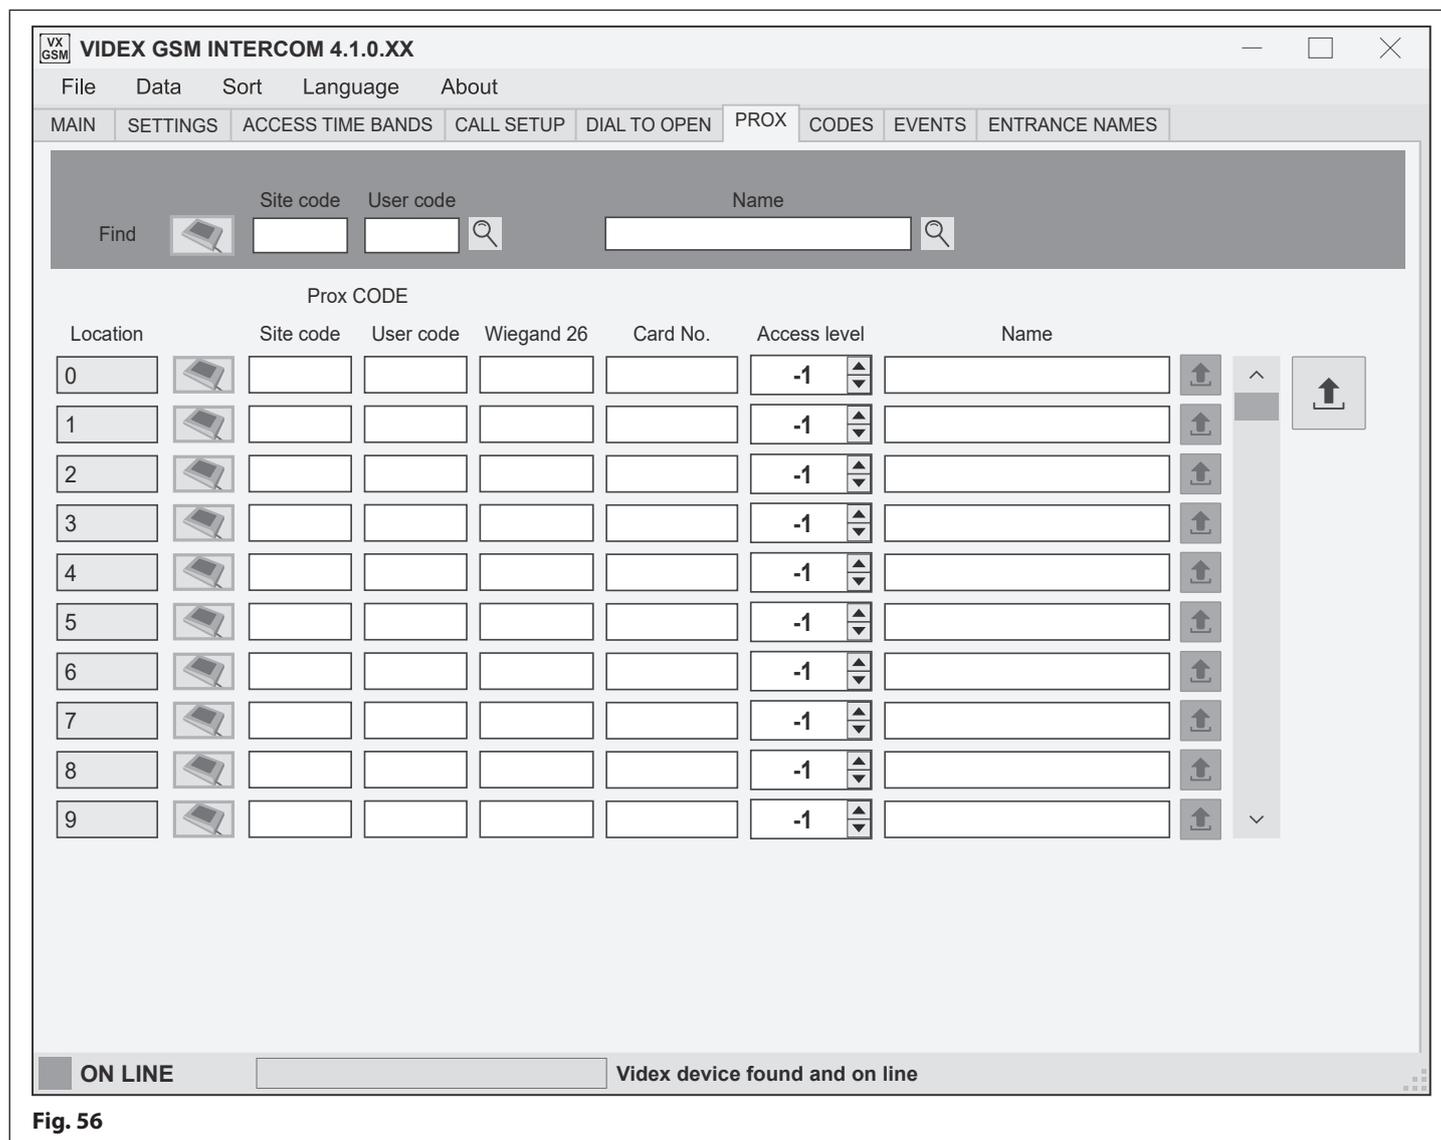
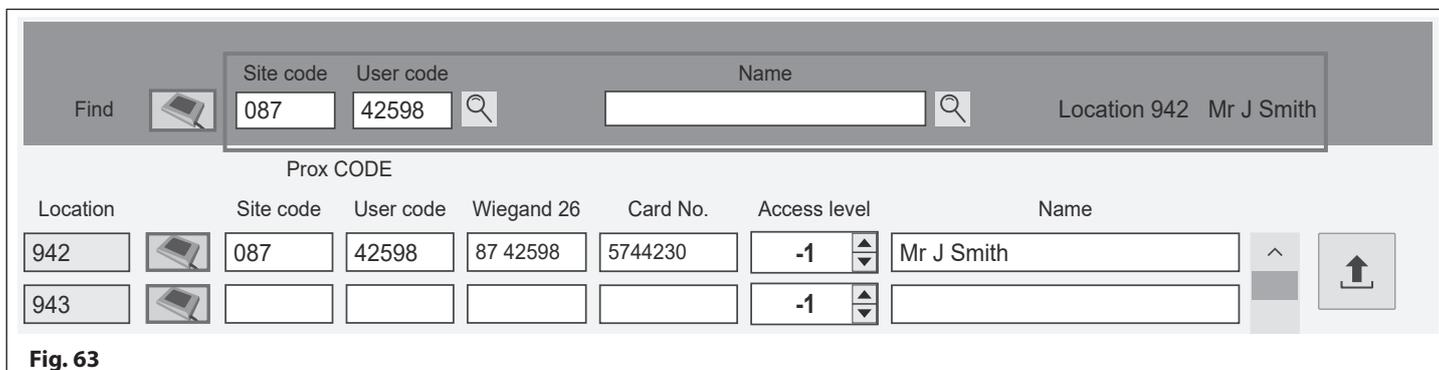
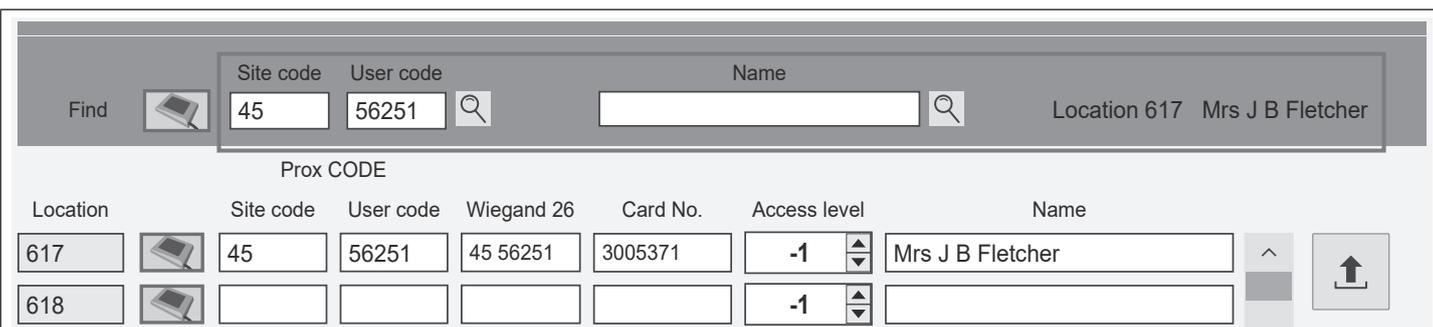

Fig. 56
Fig. 63
Fig. 66
The prox window layout is the same for each of the GSM systems. On this screen for the GSM4K PRO series and GSMVRK series up to 1000 fobs/cards (from location 0-999) can be programmed, while for the Digital GSM and the Art.2270 GSM module (4G versions) up to 2000 fobs/cards (from location 0-1999). see Fig.56.
The software also includes a 'find' feature located at the top of the prox window, refer to Fig.56 on page 32 and Fig.63 below.
When any of these details are entered into the relevant field and the search button pressed the prox window will jump directly to the location where the user's fob/card details are stored. In the example, Fig.63, the fob/card's site code and user code details were used to find the user's information stored in location 942, this is also confirmed to the right of the name field with the location and the user's name.
- Next click on the search button . After a brief delay the location of the fob/card and user's name will appear to the right of the **name field**, **Fig.66**. Like in the previous example, **Fig.63**, the prox window will jump directly to the location where the user's fob/card details are stored.